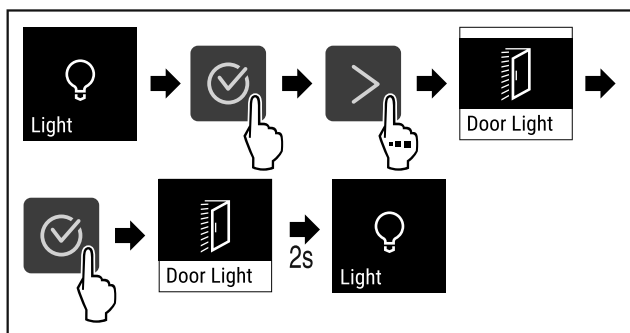

Fig. 70
- Complete steps (see Fig. 70) .
- Complete the steps (see Fig. 70) .